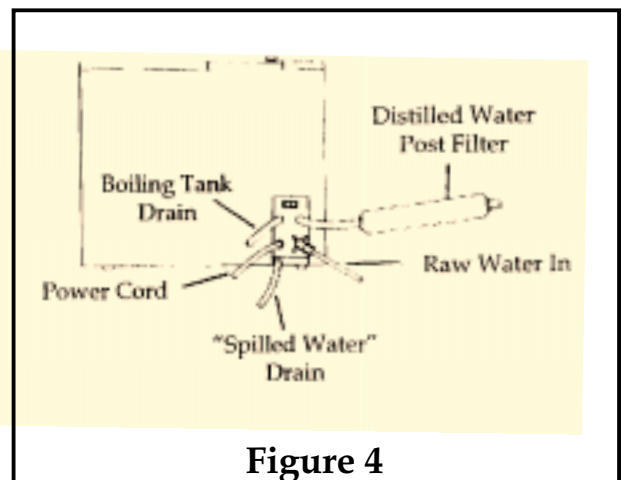

Figure 4
- Insert the elbow into the fitting marked “BOILING TANK DRAIN” (red fitting) on the rear of the unit (see figure 4). Press in firmly.
- Slide the 5/8” hose clamp onto the end of the clear, flexible 3/8” tubing. Install the tubing onto the elbow marked “DRAIN” on the lower rear of the unit (see figure 4). Tighten the hose clamp securely.
- a) Insert the 3/8" elbow into the fitting marked "DISTILLED WATER OUT" (blue fitting) on the rear of the unit (see figure 4). Press in firmly.